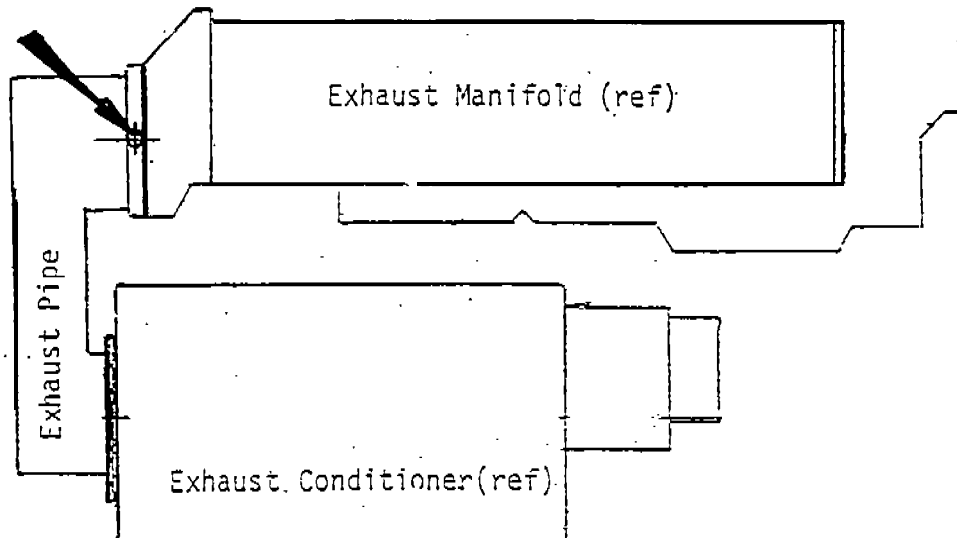

Figure 14. Location of Exhaust System Back Pressure Test Port
24. ( ) Connect a manometer or magnehelic to the test port in the exhaust pipe flange shown in Figure 14. Run the engine at full throttle no load, with exhaust conditioner filled to normal operating water level. The exhaust backpressure does not exceed 34 inches of water.